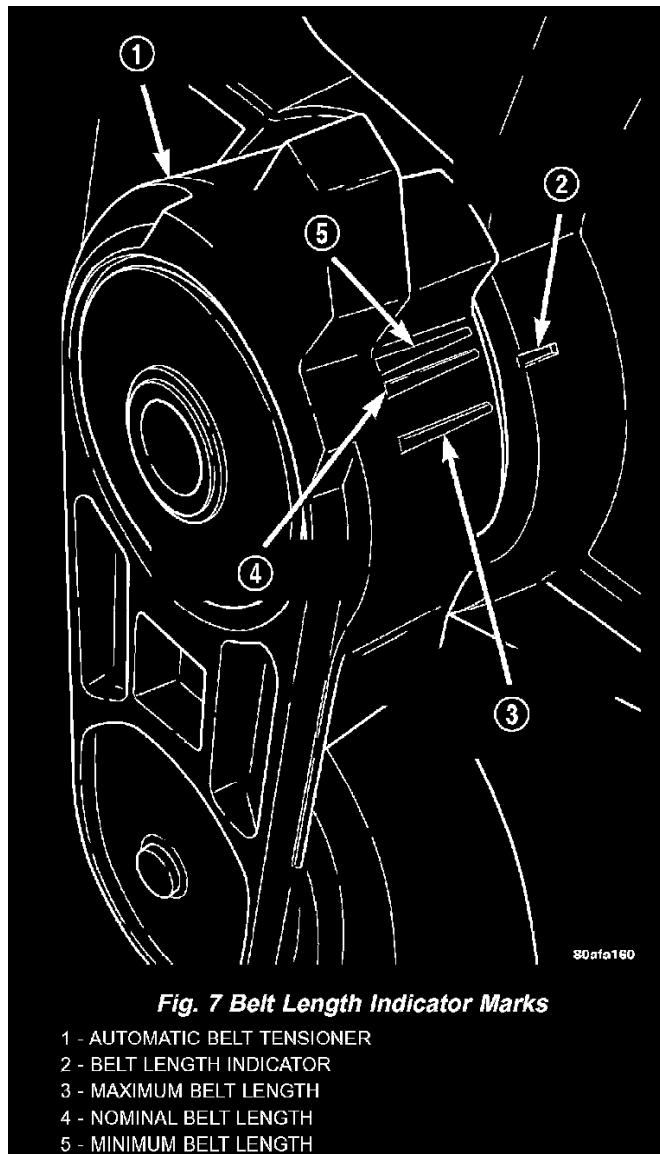

Fig. 7 Belt Length Indicator Marks
3. After belt is installed, inspect belt length indicator marks (Fig. 7). The indicator mark should be within the minimum belt length and maximum belt length marks. On a new belt, the indicator mark should align approximately with the nominal belt length mark.